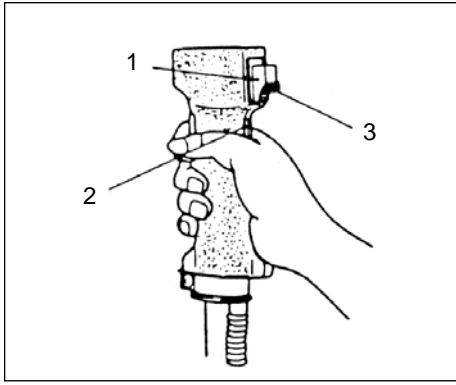

Fig.2-2
Starting (Fig. 2-2, 2B)
1. Set ignition switch (1) to ON position. (Fig. 2-2, 2B)